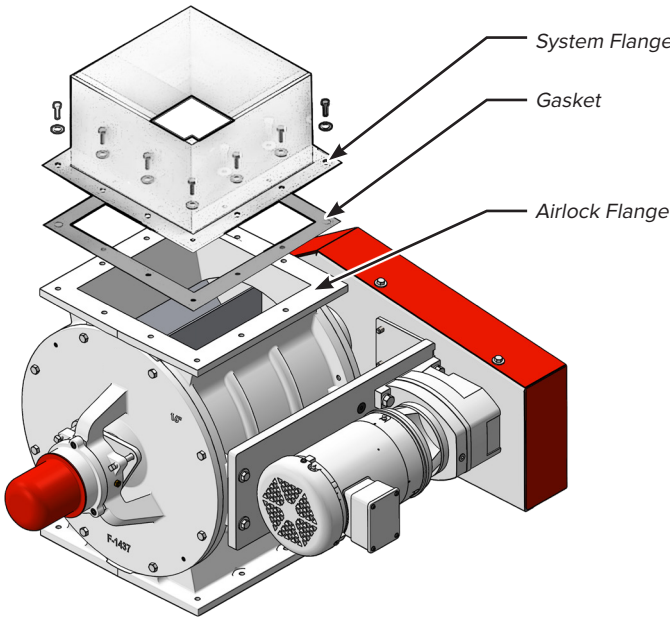
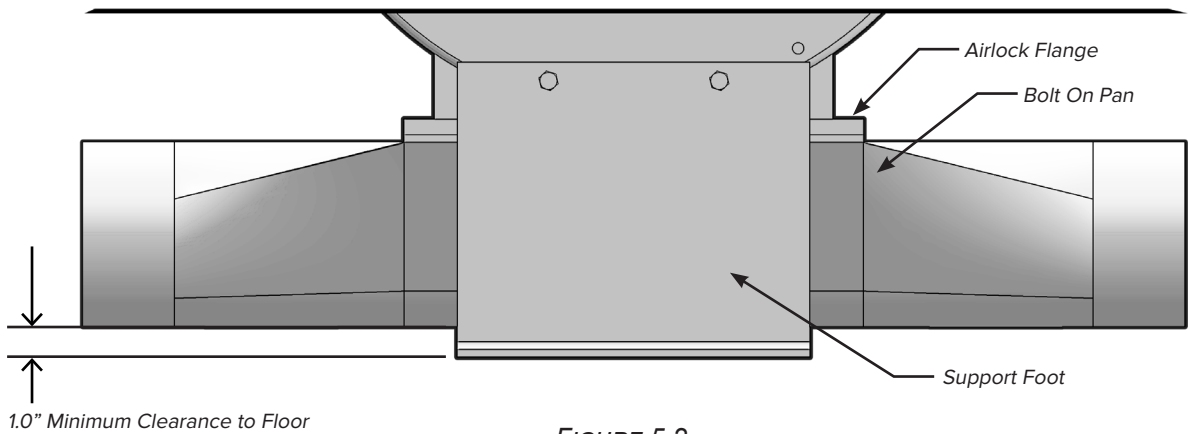

FIGURE 5
FIGURE 5.2
- a. If the airlock will be floor mounted (Figure 5.2), secure to the floor using approved anchors and then attach the airlock mounting flange to the system flange using fasteners and supplied gasket(s) (Figure 5).
- b. If the airlock connects between two pieces of equipment, and is not floor mounted, attach the airlock flanges to system flanges using fasteners and supplied gaskets as shown (Figure 5). The airlock should be attached to the sturdiest equipment first.